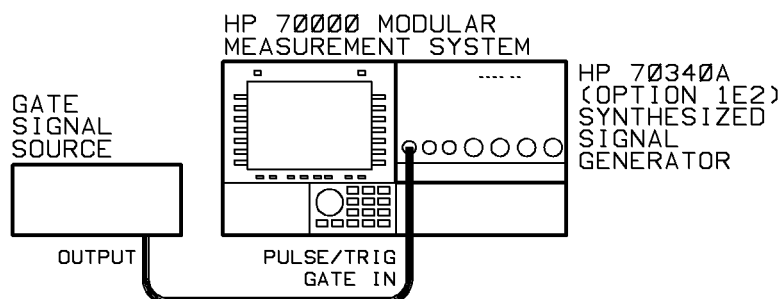

Figure 3-9. Gated Pulse Modulation Equipment Setup
1. Connect the equipment as shown in Figure 3-9:
To program the signal generator to generate the signal explained above, connect the equipment as shown in Figure 3-9, set the gate signal source for the desired gate signal characteristics, and then run the following program.